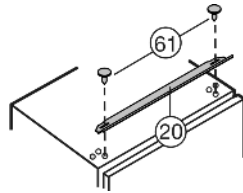

Fig. 11
- ▶ Screw Fig. 11 (61) the equalizer trim Fig. 11 (20) to the appliance through the oblong holes on top.
- ▶ Slide the equalizer trim Fig. 11 (20) toward the handle side as far as it will go.